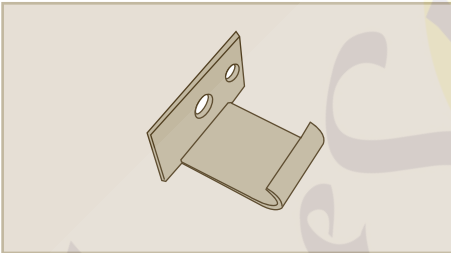

Figure 3
- ✓ 2 x Catch Hook for Clamping Latch, See Figure 3.